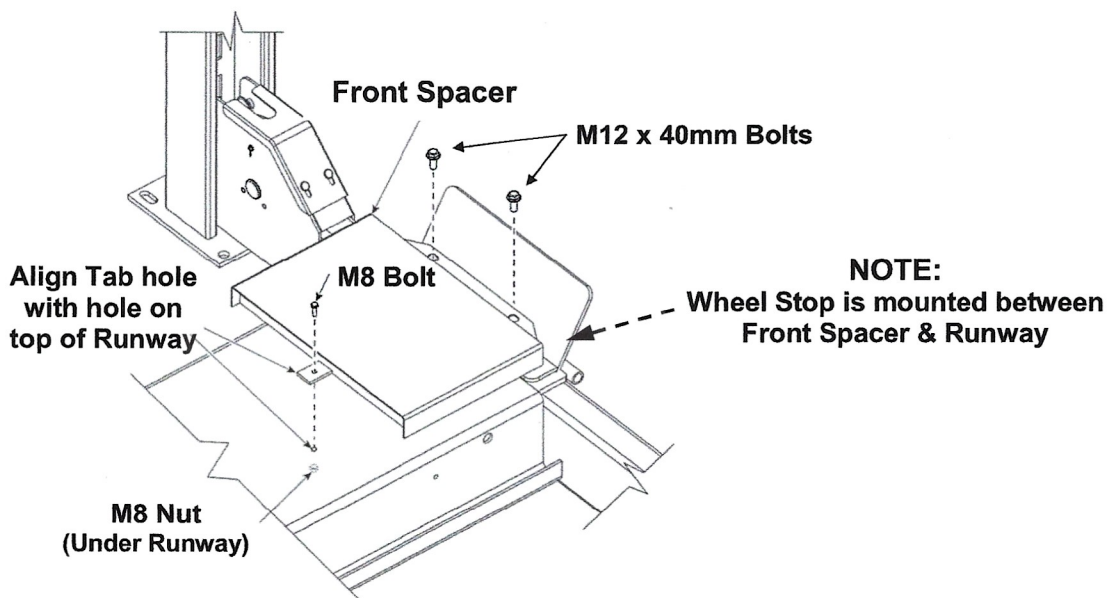

Fig. 2
- 2) Position the Front Spacer (#2) on Runway, so the bolt holes align with the Wheel Stop holes and the center hole in Runway - Fig. 2.
- 3) Secure back of Front Spacer to Runway using M8 Bolt & Nut, while also securing the front using M12 x 40mm Bolts - Fig. 2. **NOTE:** Alignment Wheel Stop is mounted between Front Spacer & Runway.